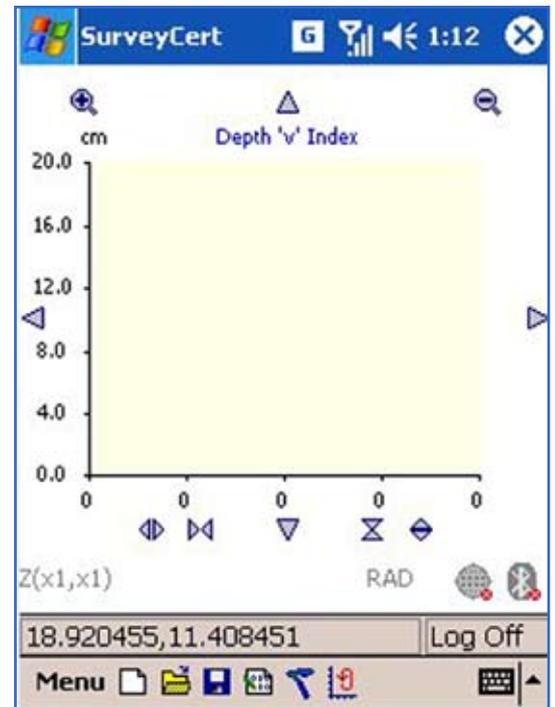

Figure 7.1: Reading locate data on the PDA
- a. Note the GPS COM port number and Baud rate. An example is shown in Figure 7.1.